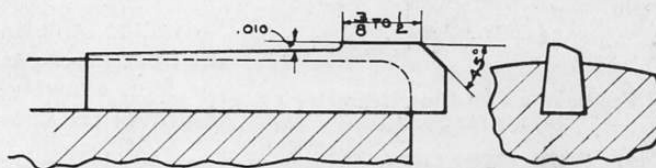

Fig. 42
*Roughing Reamer.* The profile of a blade in a roughing reamer for steel is shown in Fig. 42. The reamer may be solid or inserted blade, but for small diameters a solid reamer is generally used. The straight part should be ground about .002" less than the required diameter of the hole. Since the beveled corner in front does most of the work, it should be given a generous clearance angle to avoid any drag on the heel of the blade.